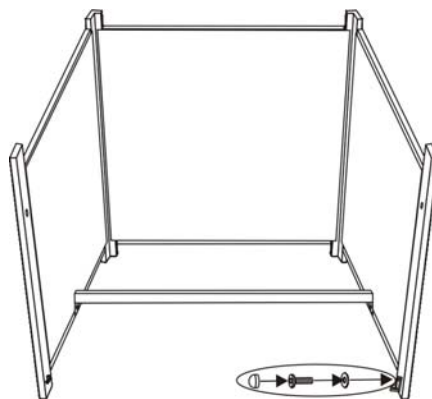

Figure 4
4. Attach the bottom connector to right side panel by using a 1/4"x15 mm bolt and washer as shown in Figure 4. Guide the bolt through hole in bottom connector, into the pre-drilled hole in the right side panel. **Do not over tighten.**